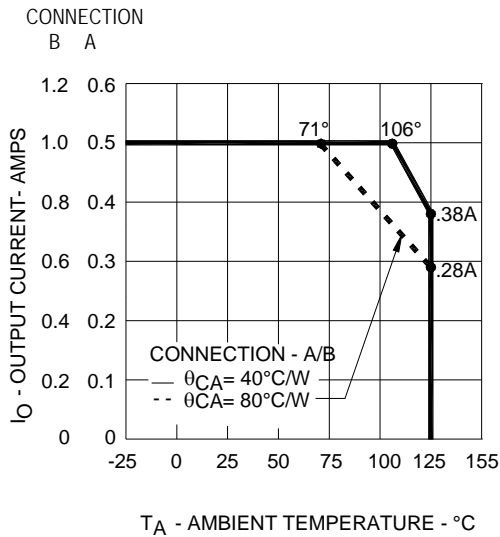

Figure 3. Maximum Average Output Current Rating vs. Ambient Temperature. (Note A)
Average Output Current, derated per Figure 3
3. For rating, see Figure 5. The output power P_D rating curve is obtained when the part is handling the maximum average output current I_O as shown in Figure 3.